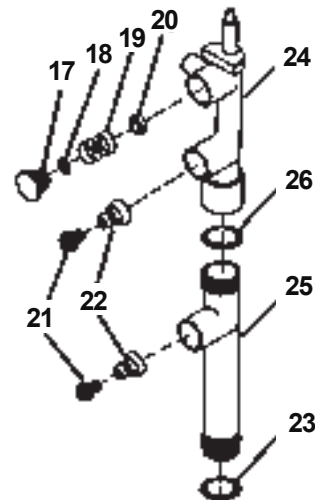

**Figure 7. Pump Disassembly Step One**
- E. Remove two small hand nut(s) (12) and top lock plate (13) from clamp rod (14). (See Fig. 7)
(See Fig. 7)